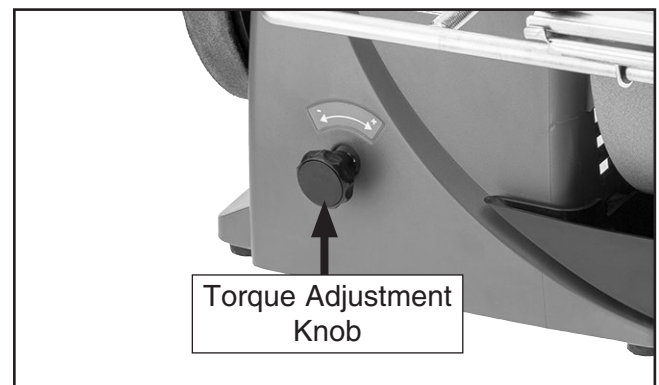

Figure 14. Location of torque adjustment knob.
- If wheel *does not* rotate at constant rate while applying workpiece pressure, torque is not adjusted correctly. Turn torque adjustment knob clockwise until wheel does not slip while desired workpiece pressure is applied (see **Figure 14**).